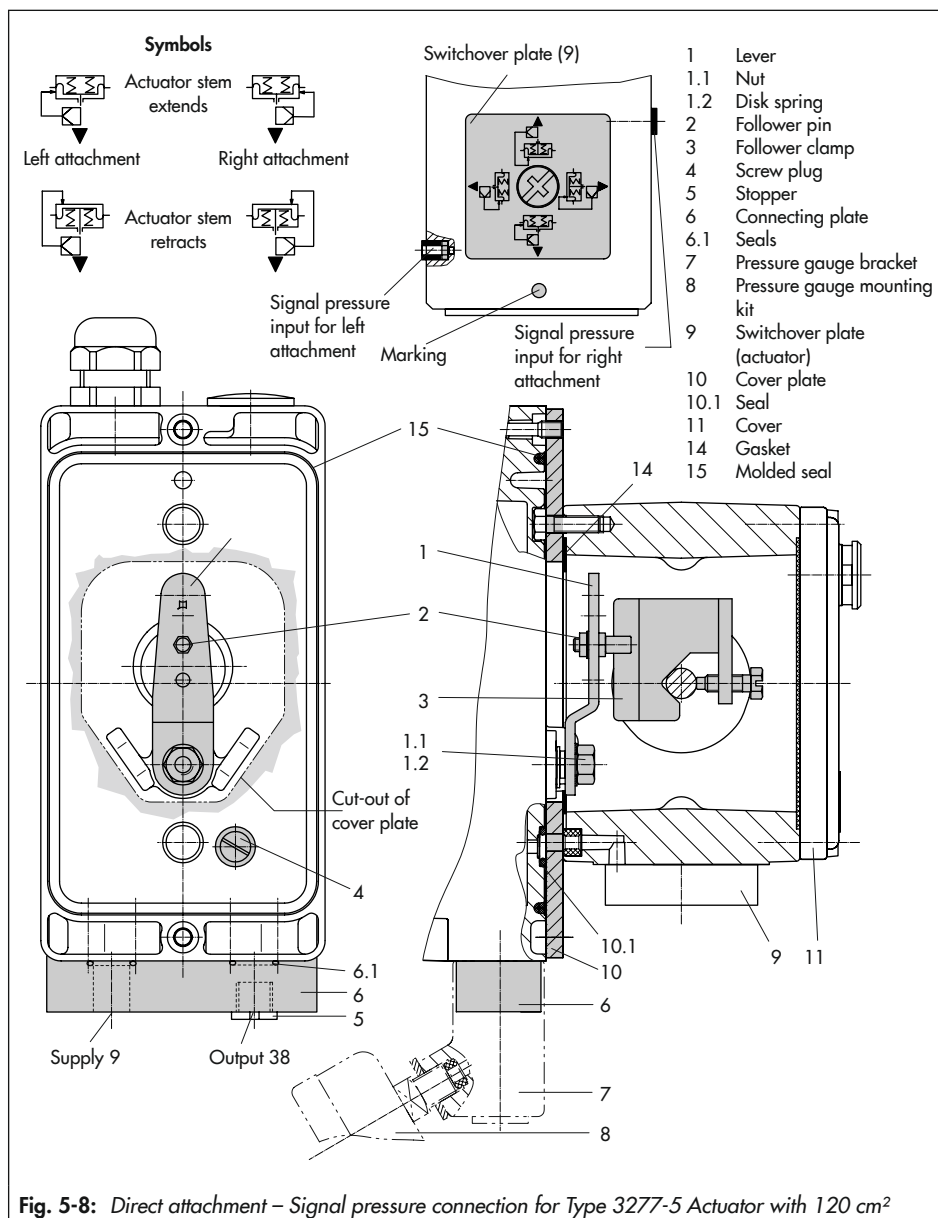

Fig. 5-8: Direct attachment – Signal pressure connection for Type 3277-5 Actuator with 120 cm²
- ➔ Actuator with 120 cm² (see Fig. 5-8)
- ➔ Depending on the fail-safe action of the actuator "actuator stem extends" or "actuator stem retracts", mount the switch-over plate (9) on the actuator yoke. Align the symbol for attachment to the left or right side with the marking (see Fig. 5-8, top).
1. Mount connecting plate (6) or pressure gauge bracket (7) with pressure gauges on the positioner. Make sure that the two seals (6.1) are seated properly.
2. Remove screw plug (4) on the back of the positioner and seal the signal pressure output (38) on the connecting plate (6) or on the pressure gauge bracket (7) with the stopper (5) included in the accessories.
3. Place follower clamp (3) on the actuator stem, align it and screw tight so that the
4. Mount cover plate (10) with narrow side of the cut-out (Fig. 5-8, on the left) pointing towards the signal pressure connection. Make sure that the gasket (14) points towards the actuator yoke.
5. Check the pin position of the follower pin (2) on M lever (1). Refer to travel tables for type of attachment. If necessary, change the pin position (see section 5.4).
6. Insert molded seal (15) into the groove of the positioner housing and insert the seal (10.1) on the back of the housing.